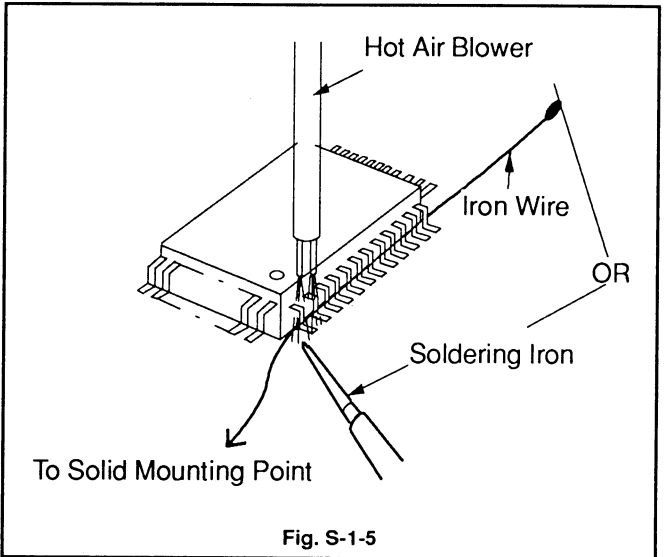

Fig. S-1-5
- (2)Affix the wire to a workbench or solid mounting point, as shown in Fig. S-1-5.
- (3)While heating the pins using a fine tip soldering iron or hot air blower, pull up the wire as the solder melts so as to lift the IC leads from the PCB contact pads as shown in Fig.S-1-5.